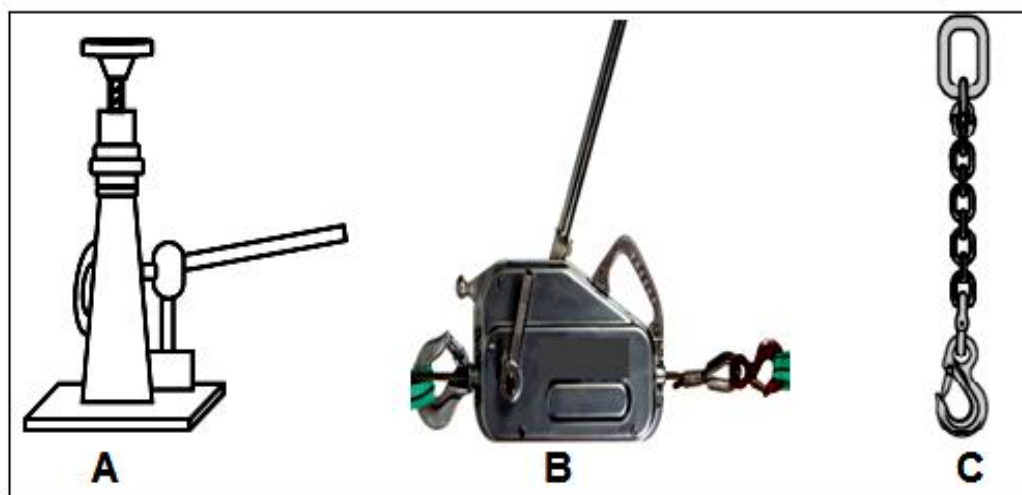

FIGURE 1
- 2.1 Identify each piece of lift equipment in FIGURE 1 used for rigging by writing only the answer next to the letter (A–C) in the ANSWER BOOK.